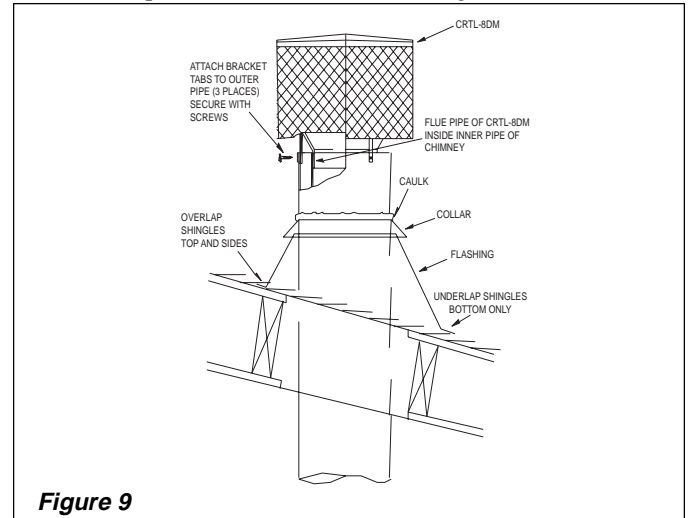

Figure 9
STEP 2: Install the storm collar on double wall chimney, push collar down to flashing and seal (see Figure 9).